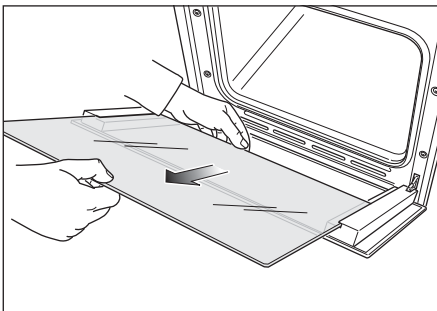

Fig.35e
- Gently pull out the inner pane of glass (Fig. 35e).